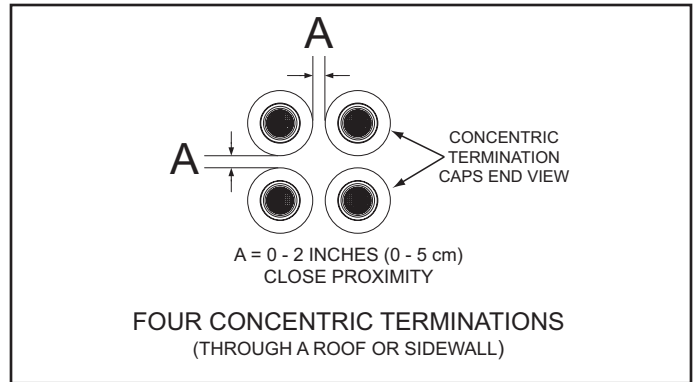
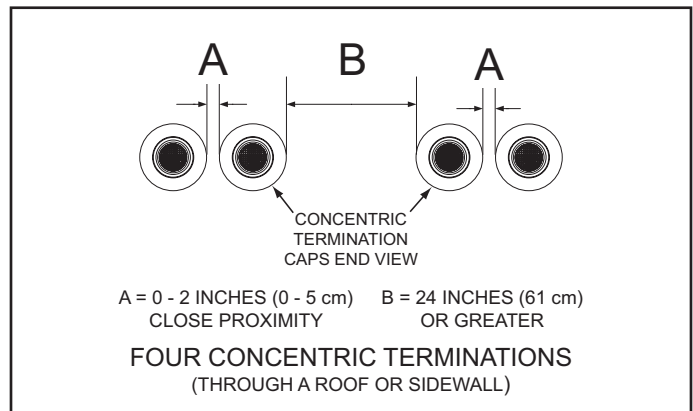
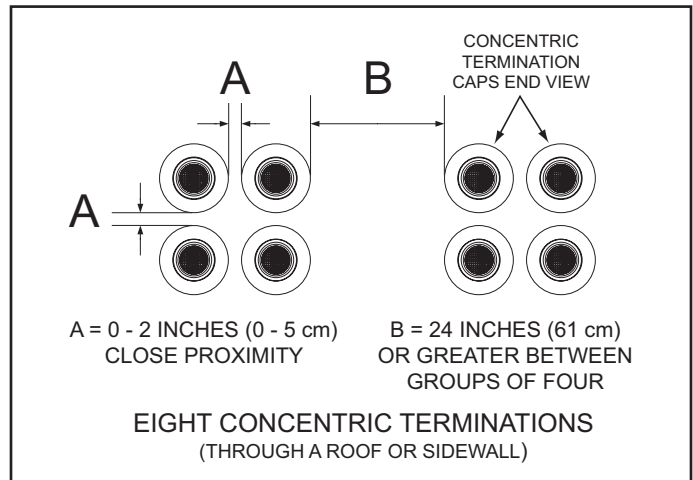
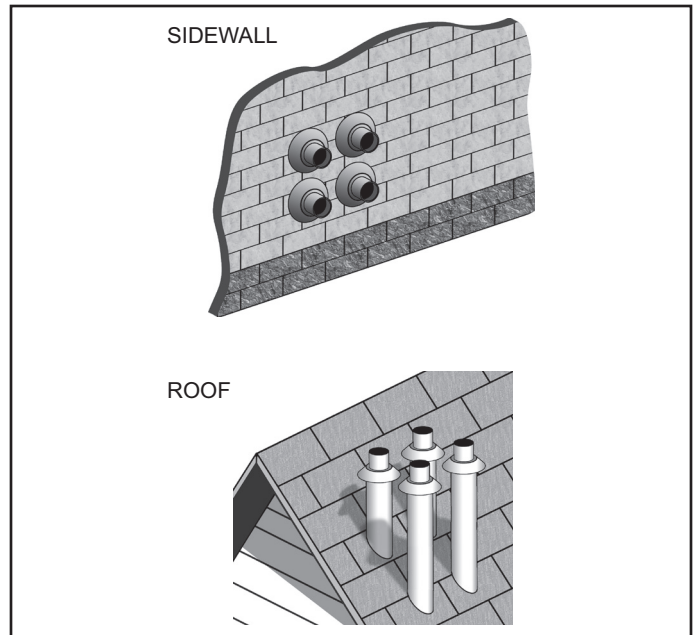

Figure 30
Figure 31
Figure 32
Figure 34
1. When installing four concentric terminations through a roof or through a sidewall in close proximity they may be arranged into stacked rows of two as shown in Figure 30 or lateral rows of two as shown in Figure 31.
2. Four is the maximum number of concentric terminations that may be installed in a group where all terminations are in close proximity as shown in Figure 30.
1. When installing multiple groups of concentric terminations through a roof or through a sidewall in close proximity they can be installed into stacked groups of four as shown in Figure 32. Lateral groups of four as shown in Figure 31 may be a more convenient installation arrangement for multiple groups depending on available space.
Four concentric terminations may be installed in close proximity as shown in Figure 34. See Figure 30 and Figure 31 on page 30 for detailed information on clearances and additional arrangement options.
Eight concentric terminations may be installed in two stacked groups of four, in close proximity, as shown in Figure 35. See Figure 32 on page 30 for detailed information on clearances.
Lateral groups of four as shown in Figure 31 on page 30 may be a more convenient installation arrangement for multiple groups depending on available space.